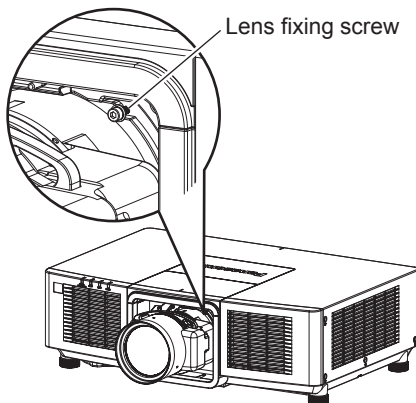

Fig. 1
1) Remove the dustproof sponge. (Fig. 1)
- 1) **Remove the lens fixing screw. (Fig. 1)**